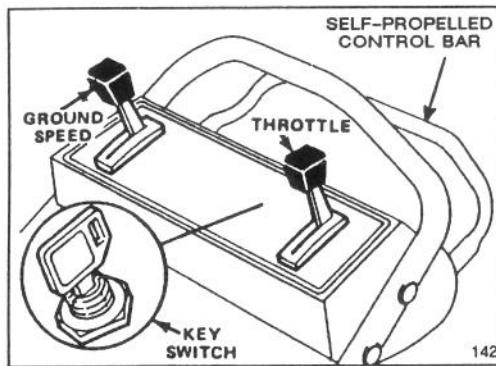
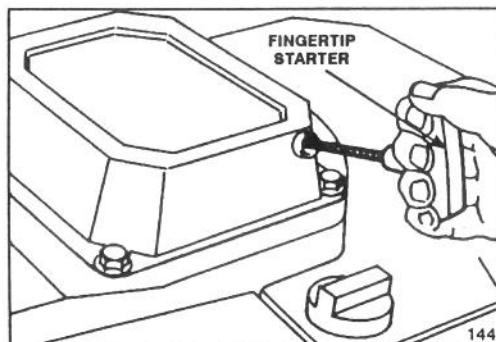

Figure 7
Figure 8
1. CONTROLS — Key switch (Key start models), throttle, ground speed control, and self-propelled control bar are on upper handle (Fig. 7). Fingertip starter is on top of engine (Fig. 8).
2. Push spark plug wire onto spark plug and on self-propelled models move ground speed control to "N" (Fig. 7).
4. KEY-LECTRIC STARTING — Move throttle (Fig. 7) to CHOKE. Turn key (Fig. 7) to START and release when engine begins running. When engine starts, remove throttle from CHOKE and regulate as desired.
6. STOPPING (Fig. 7) — Release control bar to stop traction drive. Move ground speed control to "N" on self-propelled models. To stop engine, move throttle to OFF. Remove key from switch (key start model) and pull wire off spark plug if mower is unattended or not used.
3. Move throttle control to FAST (Fig. 7).